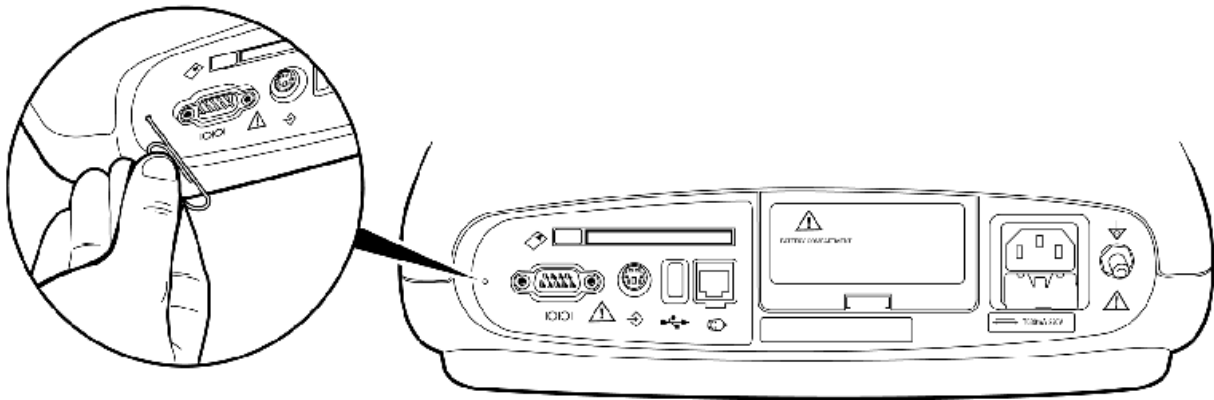

Figure 8-1 System Reset button
- Gently press and release the system reset button using an ordinary paper clip or other slender object (refer to Figure 8-1).